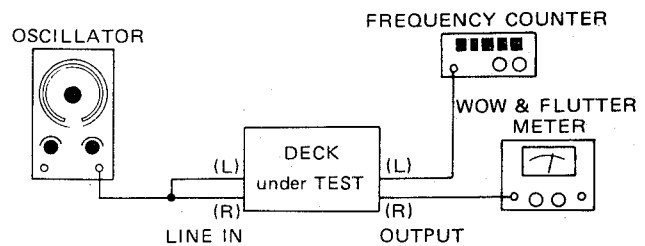

Fig. 2-21
1. Connect the test equipment to the deck as shown in Fig. 2-21.